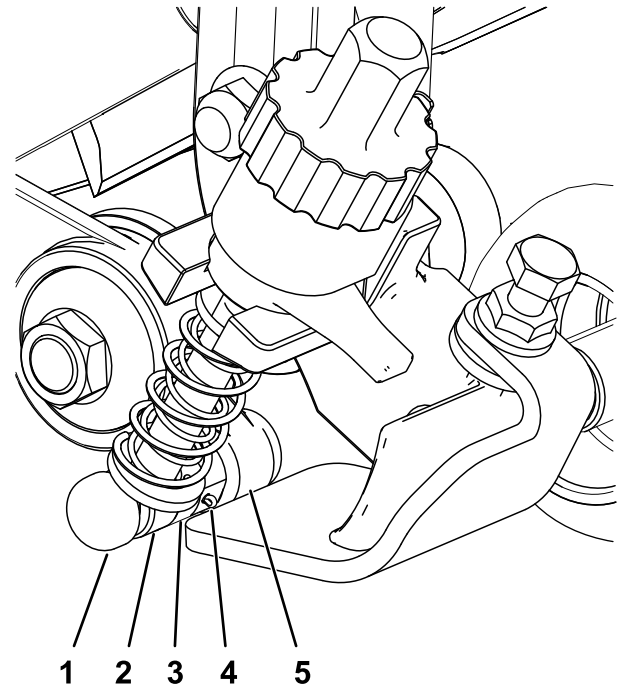

Figure 11
3. On the idler assembly side, align the adjuster-arm rod of the HOC bracket with the adjuster collar on the idler assembly and secure it with an adjuster pin and cotter pin (Figure 11).